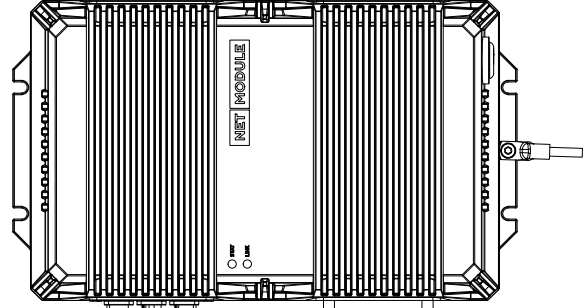

Figure 9
- 6.3 Place the molex cable into the molex connector until the guide rail of the bracket is in the right position to hold the guide bolt of the molex connector (Figure 9)